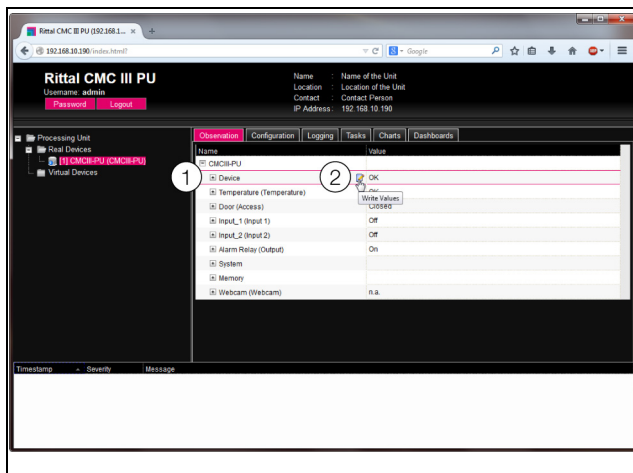

Fig. 35: Selecting several parameters
- Expand the "CMCIII PU" entry by clicking the "plus" character in front of this entry (fig. 35, item 1).
- Place the mouse cursor at the end of the first column in the "Device" row (fig. 35, item 2).